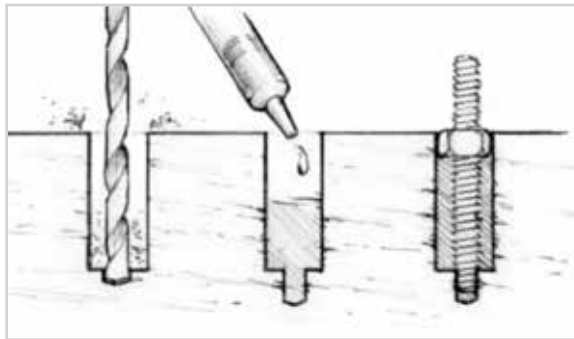

Figure 6-4 *Bond threaded rods or studs into the substrate as an alternative for easily removable hardware.*
3. Wet out the lower end of the stud and work thickened epoxy into the threads to avoid air voids around the stud. Push the coated stud into the epoxy filled hole. A small amount of epoxy should squeeze out around the nut. Allow the epoxy to cure thoroughly before tightening the nuts (Figure 6-4). The top of the nut should be barely above the surface. This helps to reduce the creep load on the epoxy when the hardware item is tightened down.